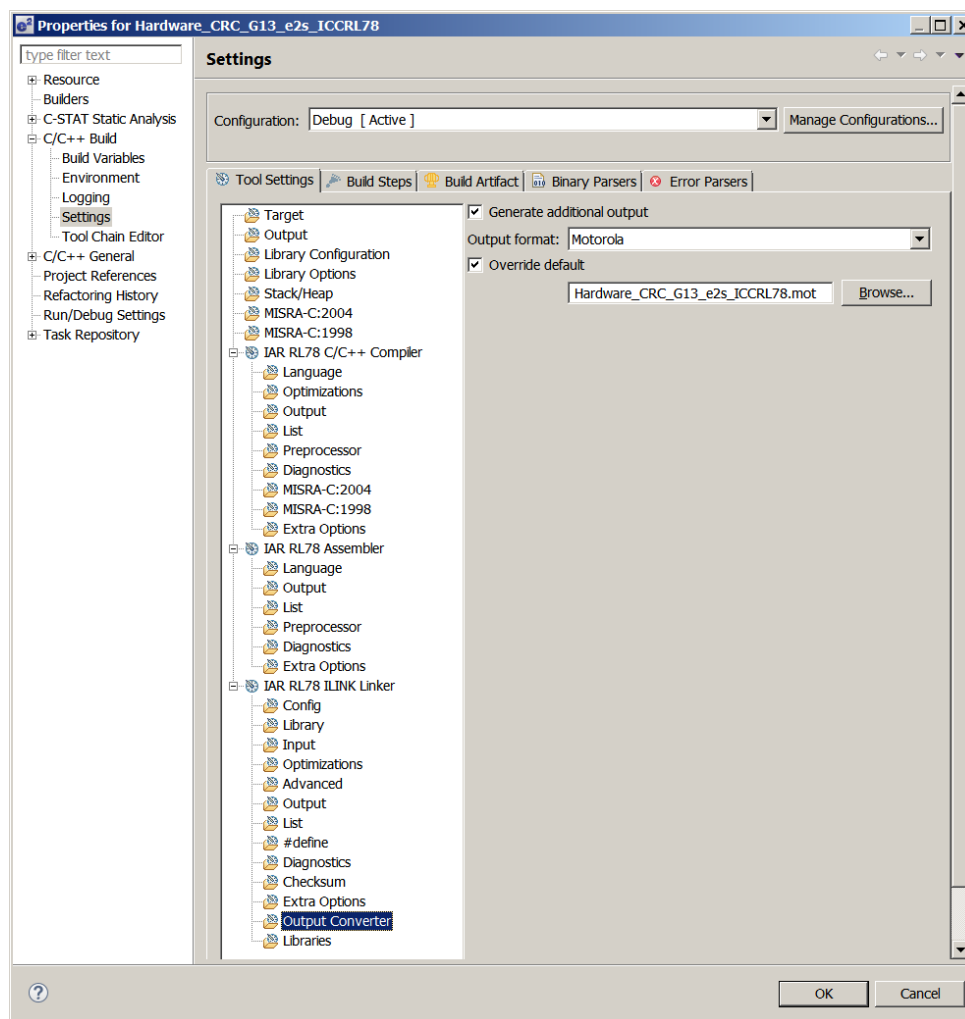

Figure 8: Linker Output Converter Options in e2studio/IAR settings
- Set an additional hex output file in e2studio Project >> Properties >> Settings >> IAR RL78 ILINK Linker >> Output Converter (See Figure 8.)